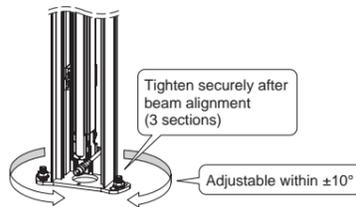

Fig. 4
- Turn on the power and perform beam alignment for the F3SG-SR/PG. For the procedure of performing beam alignment, refer to the F3SG-SR/PG User's Manual. The Floor mounting column can be adjusted ±10° in the direction of rotation. After perform beam alignment, securely tighten the Screws or the Nuts. (Fig. 4)